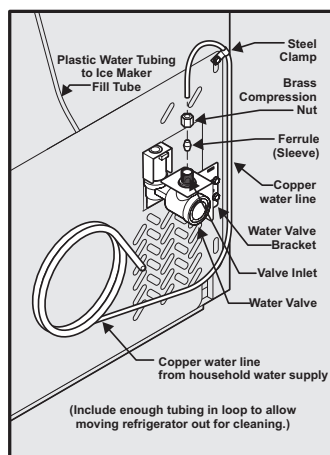

Figure 1
- 4 **If you use copper tubing** - Slide brass compression nut, then ferrule (sleeve) onto water supply line. Push water supply line into water valve inlet as far as it will go (¼ inch/6 mm). Slide ferrule (sleeve) into valve inlet and finger tighten compression nut onto valve. Tighten another half turn with a wrench; **DO NOT** overtighten. See Figure 1.